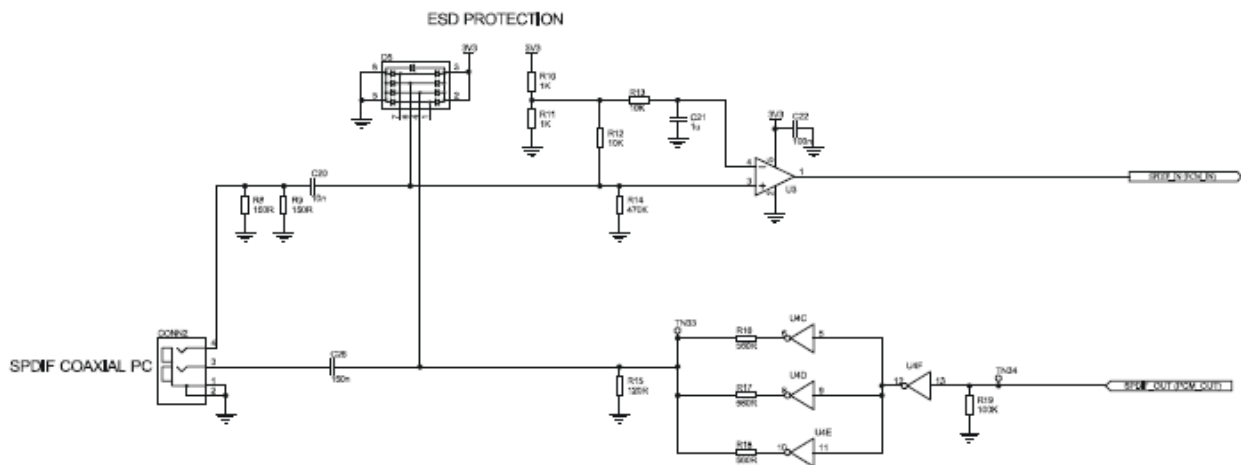

Figure 11: Example Circuit for SPDIF Interface (Co-Axial)
- A 75Ω coaxial cable with an RCA connector, see Figure 11.